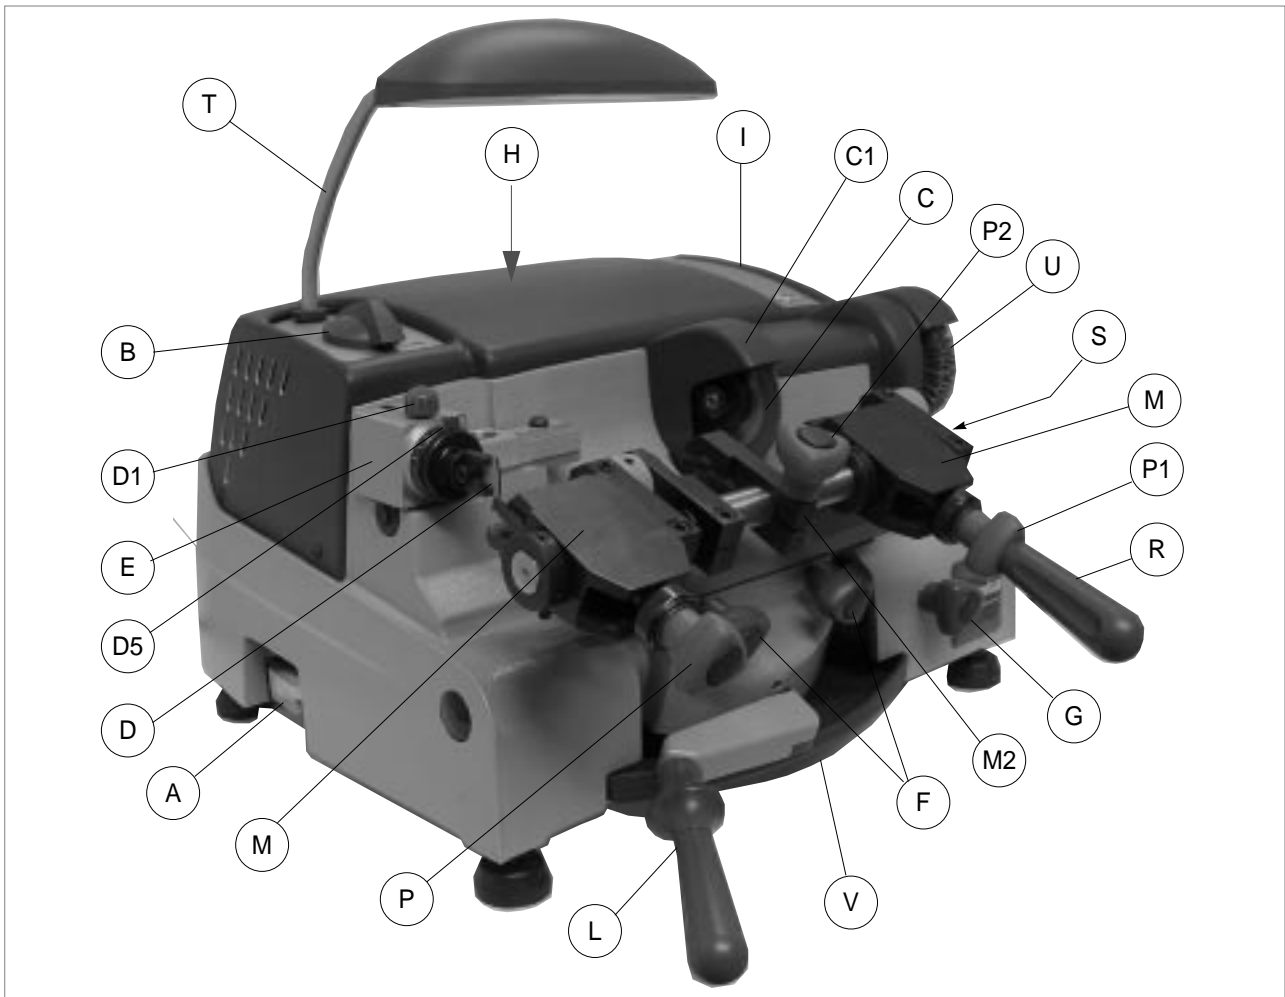

Fig. 5
- before activating the master switch (A) (fig. 5, page 5), the operator must make sure that the cutter motor starting switch is in position "0" (fig. 33, page 21).
The carriage movement is horizontal on 2 axes (X-Y) and controlled by means of the lever (L) (fig. 5, page 5).